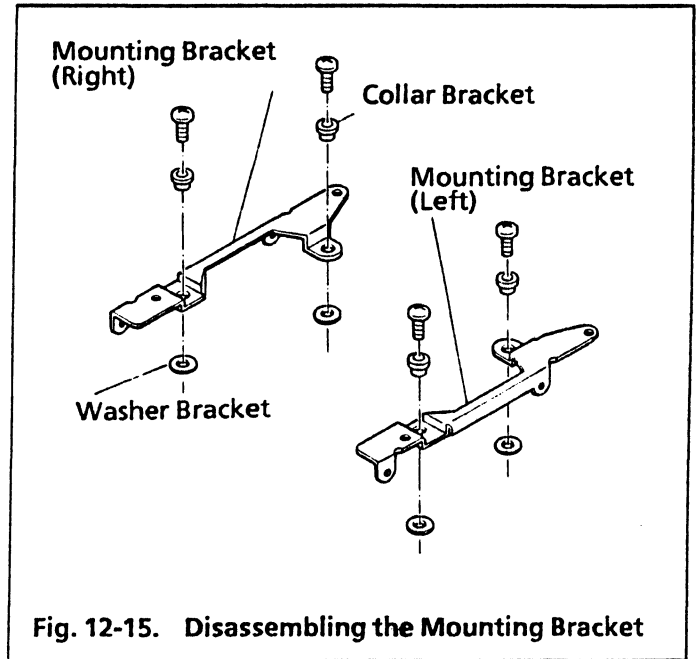

Fig. 12-15. Disassembling the Mounting Bracket
- (1) Remove the mounting bracket according to the procedure in section 12.12.
- (2) Remove the head FPC, trackØ connector, and stepper motor connector according to the procedure in section 12.4.
- (3) Remove the three set screws from the control PC board.
- (4) Remove the D motor PC board socket housing from the connector J5 and remove the control PC board.
- (5) Remount the control PC board in the reverse procedure of steps (1) to (4).
- (6) Treat the cable in the D motor PC board socket housing as shown in figure 12-15.